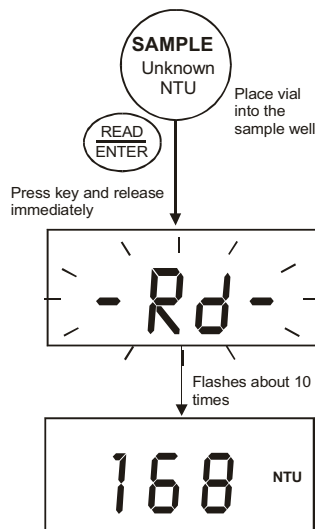

Figure 12: Single-shot measurement
3. Press READ/ENTER key and release immediately (<0.3 seconds). See Figure 12.